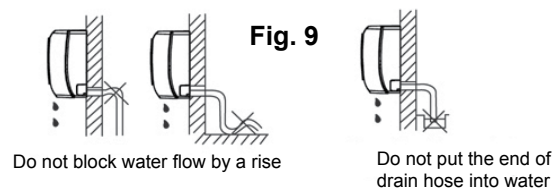

Fig. 9
- Run the drain hose sloping downward. Do not install the drain hose as illustrated in Fig. 9.